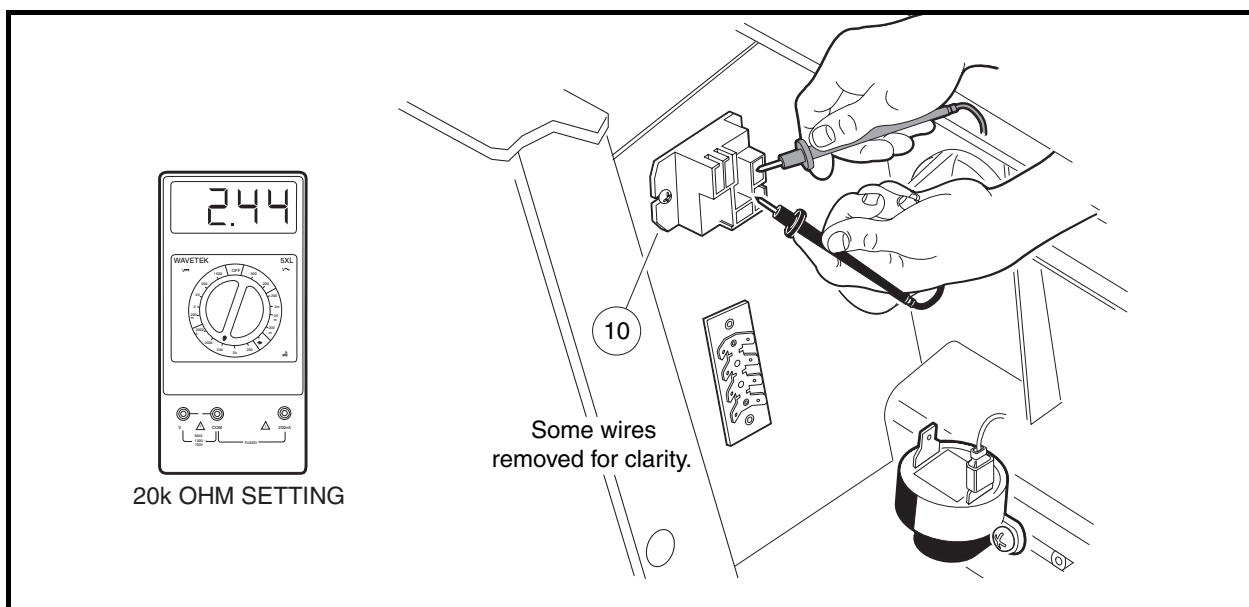

Figure 11-38 Brake Light Relay Coil Test
13.2. Set a multimeter to 20k ohms. Place the black (-) probe of the multimeter on one of the relay coil terminals (**Figure 11-38, Page 11-36**). Place the red (+) probe on the other relay coil terminal. The coil resistance should be between 2.07k and 2.82k ohms. If the reading is incorrect, replace the relay. **See Brake Light Relay Removal, Section 12, Page 12-20.**